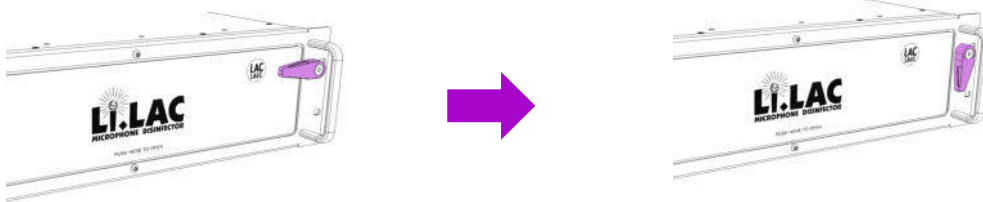

Fig. 2
1. Turn latch 90° counterclockwise to unlatch transport lock. (Fig. 2)